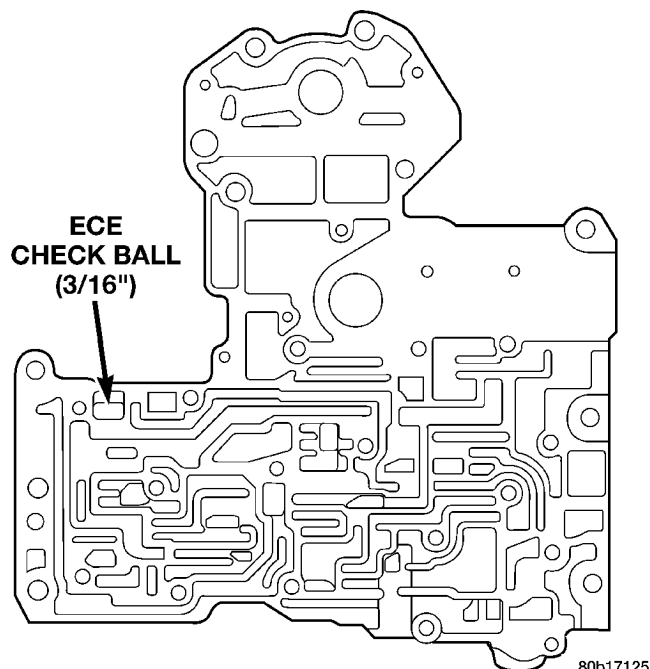

Fig. 61 ECE Check Ball
(31) Remove the ECE check ball from the transfer plate (Fig. 61). The ECE check ball is approximately 4.8 mm (3/16 in.) in diameter.
(3) Install the ECE check ball into the transfer plate (Fig. 61). The ECE check ball is approximately 4.8 mm (3/16 in.) in diameter.